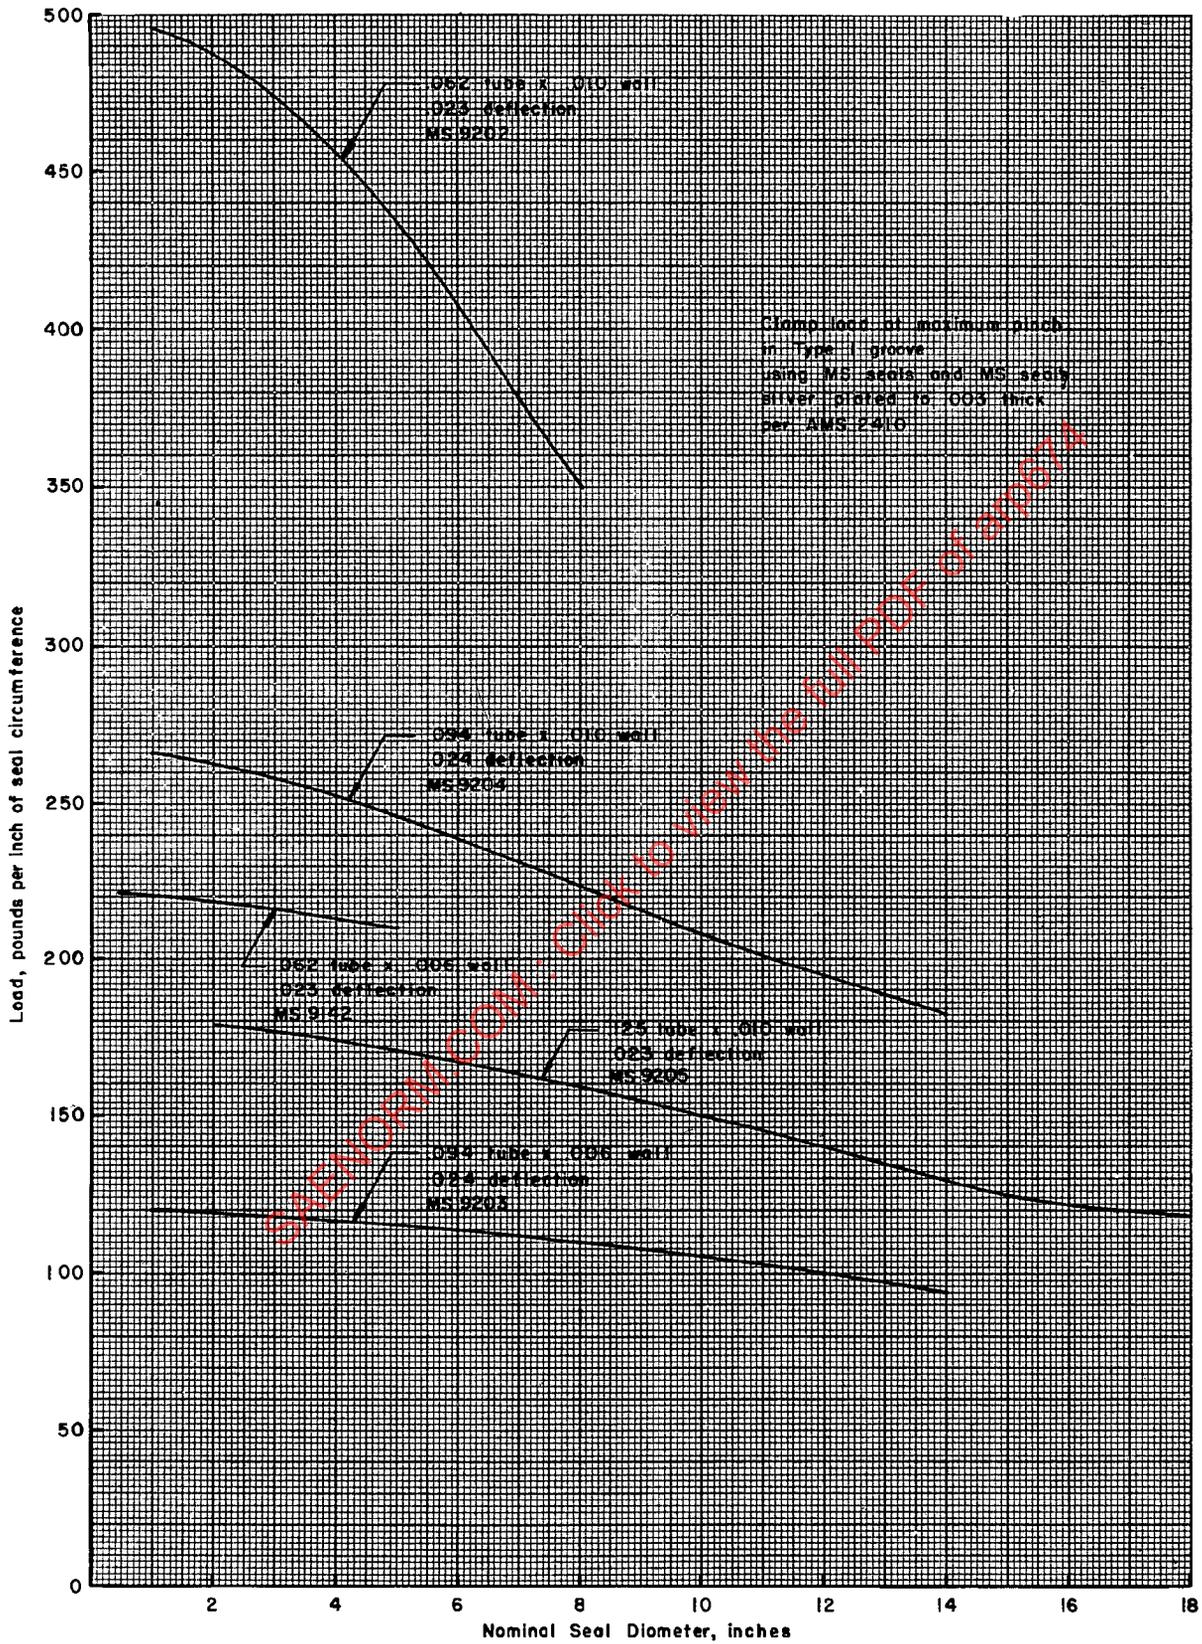

FIGURE 3
5. **LOAD TO COMPRESS SEAL:** The load per inch of seal circumference required to axially seat the mating flanges under the extreme tolerance conditions of maximum seal cross section and minimum groove depth (equals maximum pinch) is given in Figure 3 for Type 1 grooves and in Table II for Type 2 grooves.